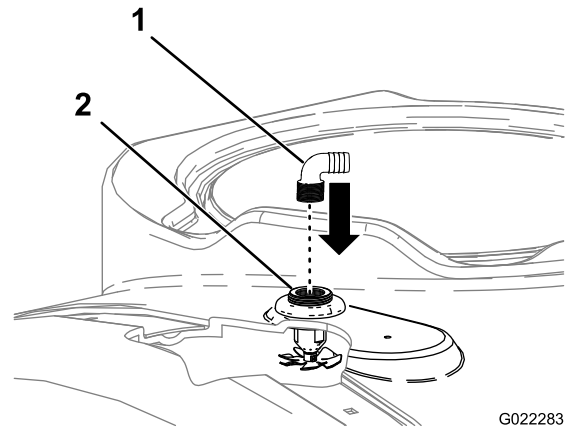

Figure 9
4. Install the 2 rinse nozzle hosebarbs into the threaded openings of the rinse nozzle bulkheads (Figure 9).